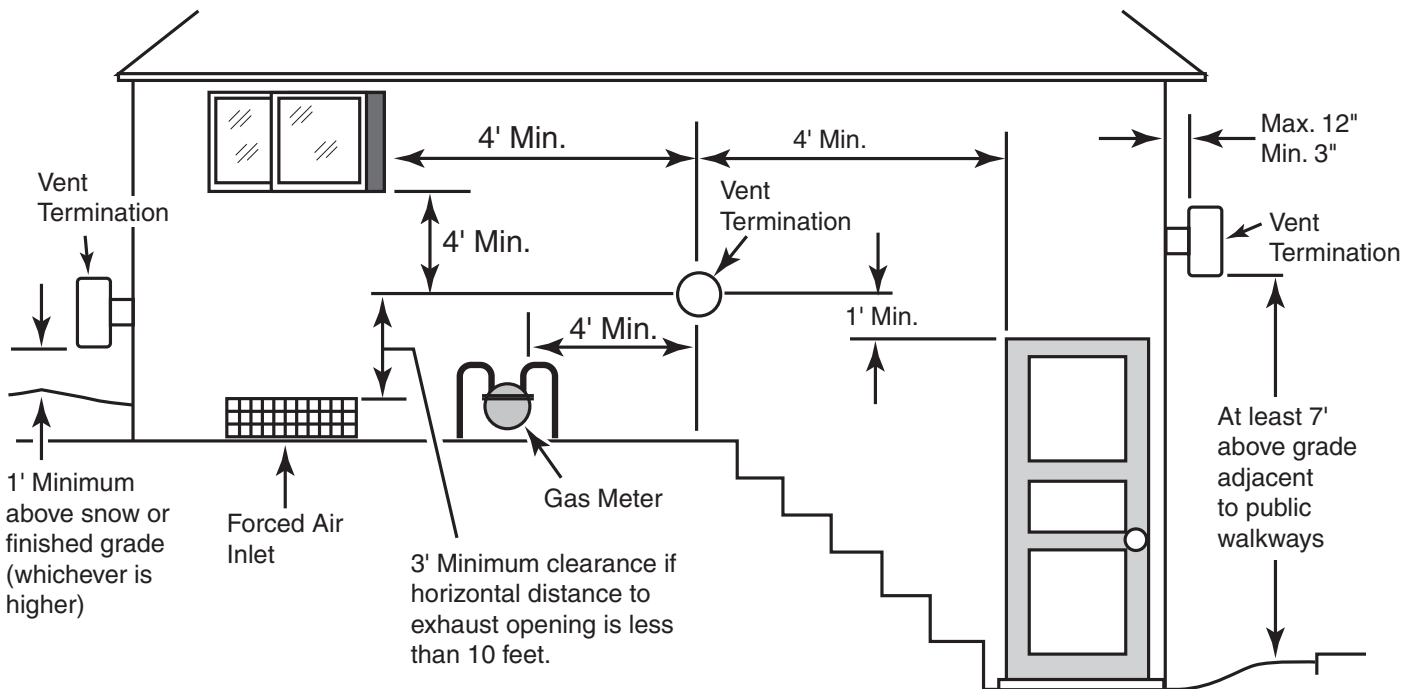
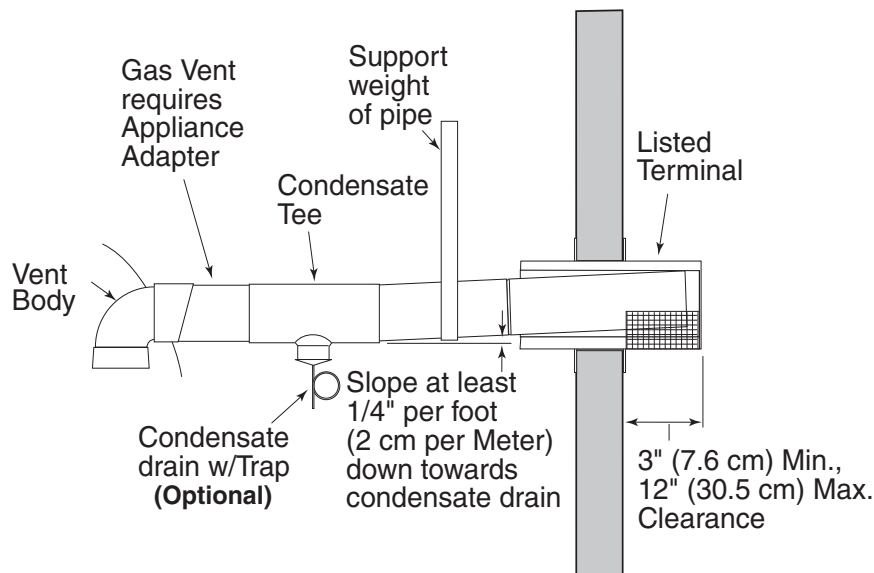
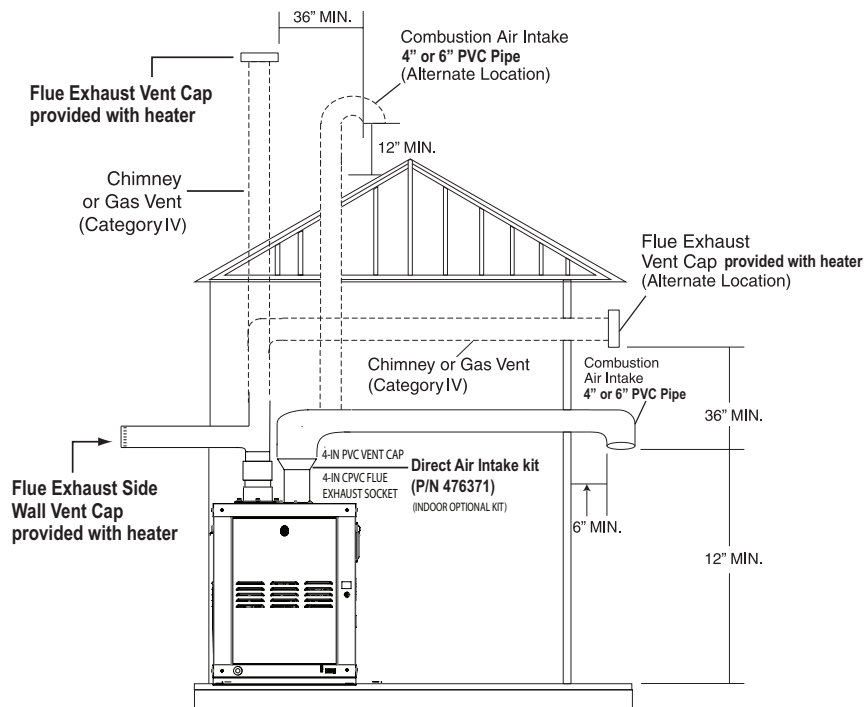

Figure 28.
Figure 29.
Figure 30.
(See Figure 29, page 37 and Figure 30, page 38)
3. **Vent Termination:** Vertical (See Figure 28 below and Figure 30 on page 38), for height of vent termination above the roof. Use an *Approved* vent terminal specified by local and national codes and your manufacturer's instructions. A roof termination must be vertical. In Canada, the Vent Cap location shall have a minimum clearance of 4 feet (1.2M) horizontally from electric meters, gas meters, regulators, and relief openings.
The terminal must be located (U.S. – See Figure 28 on page 36):
- at least 3" and at most 12" out from the wall (see Figure 30 on page 38), following the vent manufacturer's instructions
The terminal must be located (Canada – See Figure 28 on page 36):
The flue direct vent cap **MUST** be mounted on the exterior of the building. The direct vent cap cannot be installed in a well or below grade. The direct vent cap must be installed at least 1' (0.3 m) above ground level and above normal snow levels, see Figure 28, page 36. The direct vent cap **MUST NOT** be installed with any combustion air inlet directly above a direct vent cap. This vertical spacing would allow the flue products from the direct vent cap to be pulled into the combustion air intake installed above.
It is recommended that the intake vent (see Figure 30 below) be insulated in colder climates.